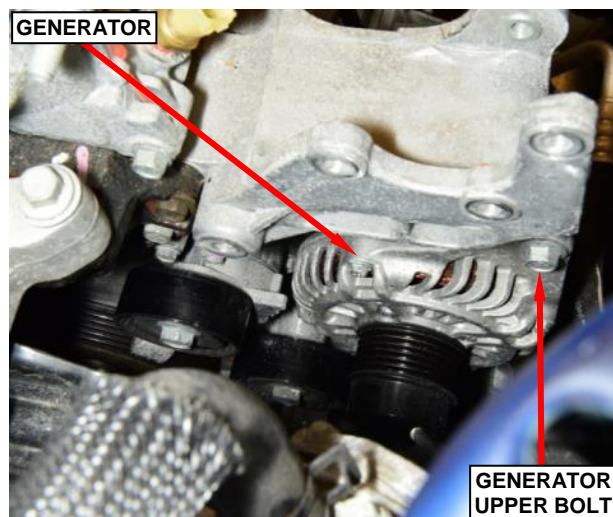

Figure 86 – Generator
67. Loosen but do not remove the upper generator bolt (Figure 86).